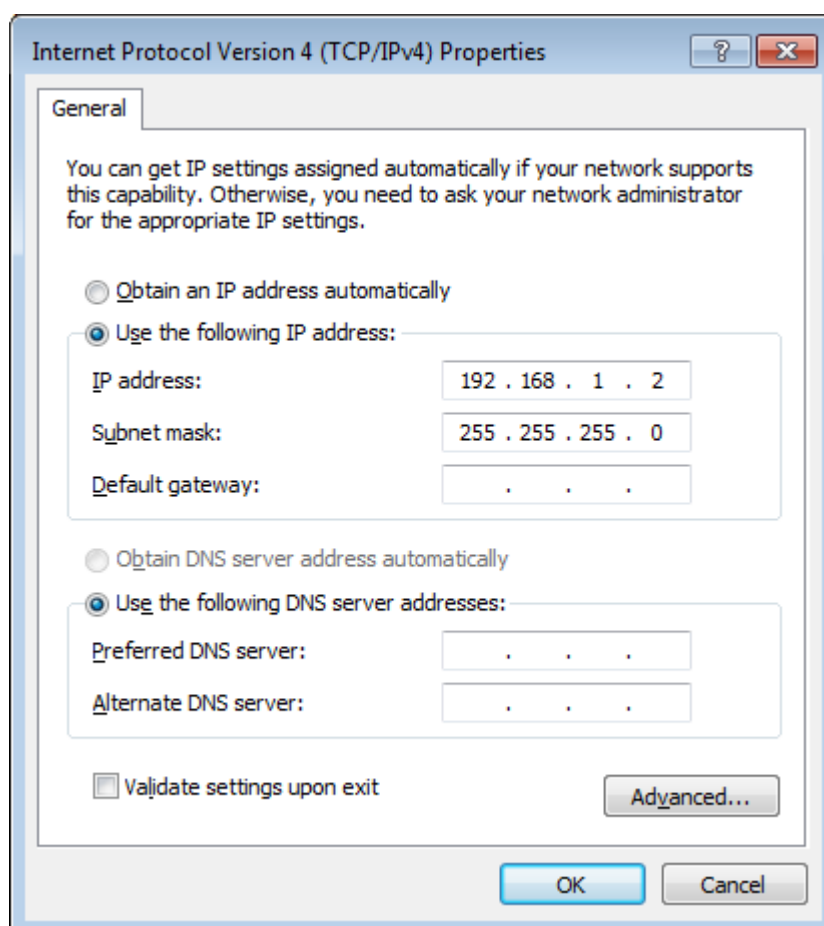

Figure 2.17: Static IP configuration of PC
1. Use one of the network cards and set it to static IP in TCP/IPv4 using the IP address 192.168.1.n, where n=[2..9] and the mask 255.255.255.0, see Figure 2.17 on page 17 (go to Control Panel → Internet Options → Network and Internet → Network and Sharing Center → Local Area Connection → Properties).